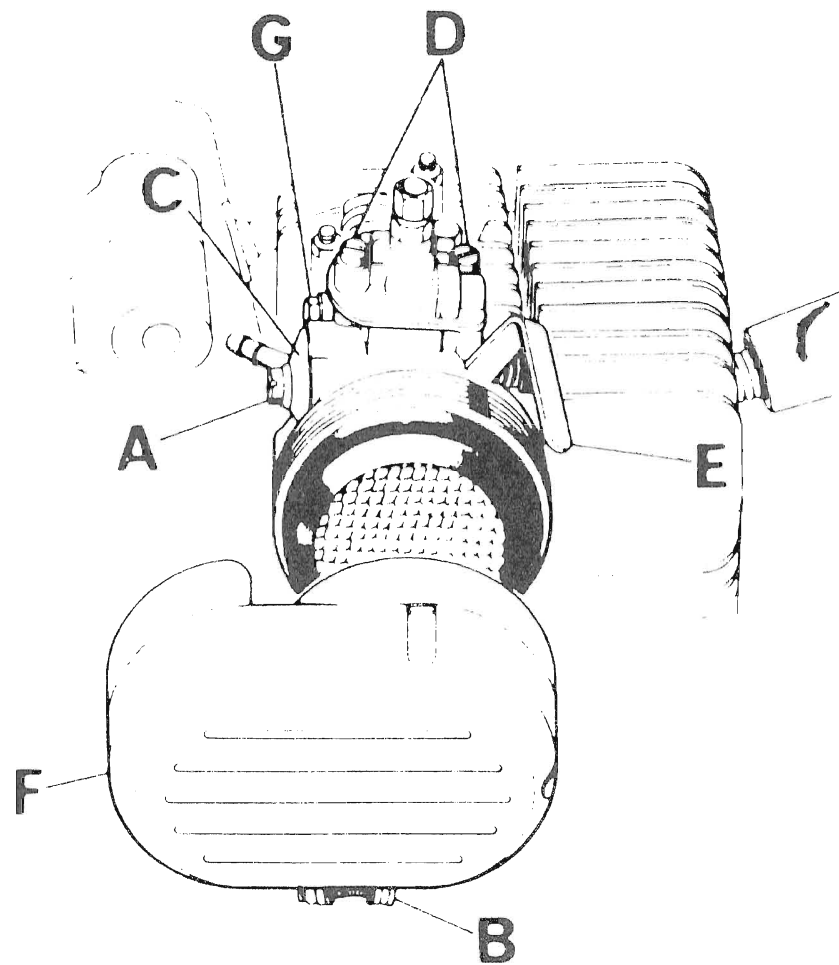

Figure 8
To gain access to the air cleaner, loosen the clip bolt (B), Fig. 8 clamping it to the carburetor, twist and pull the grey plastic cleaner cover away. The air cleaner element is now visible and is a push-in fit to the carburetor. A screwdriver can be used beneath the lip to pull the element out without damage. To clean, wash the element in clean solvent and then re-oil by immersion in light engine oil. Allow to drain, then reinstall element.
CARBURETOR FUEL FILTER (FIG. 8)
CLEANING CARBURETOR (FIG.8)